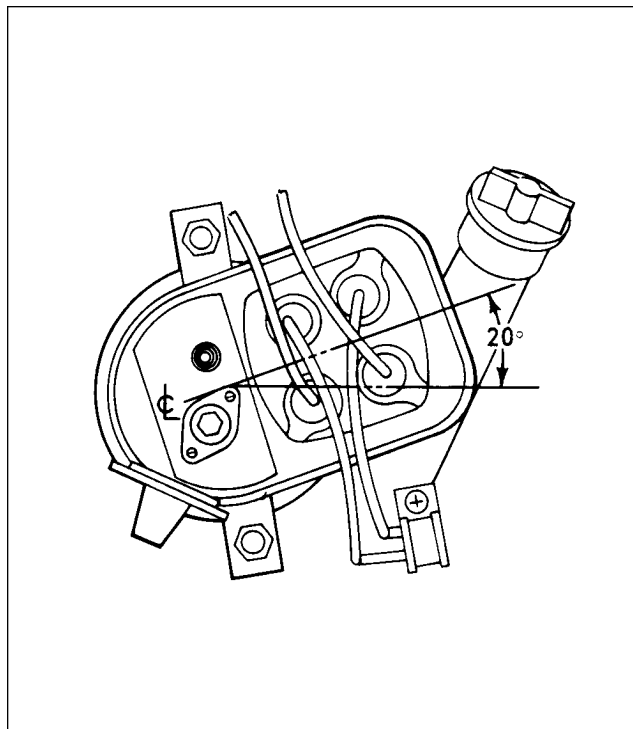

Figure 8A-14. Magneto Adjustment Limits
- b. At this point, the engine is ready for assembly of the magnetos. Remove the inspection plugs from both magnetos and turn the drive shafts in direction of normal rotation (counterclockwise facing the coupling), until the first painted chamfered tooth on the distributor gear is aligned in the center of the inspection window. (Refer to Figure 8A-15.) Being sure that the gear does not move from this position, install gaskets and magnetos on the engine. Secure with washers and nuts; tighten only finger tight.